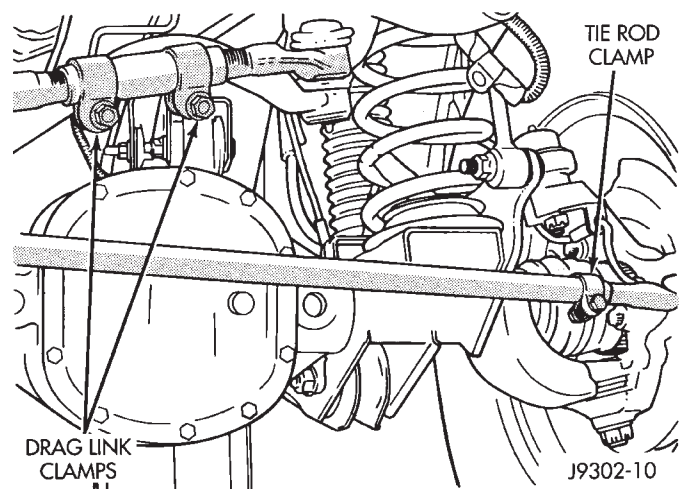

Fig. 3 Drag Link and Tie Rod Clamp
- (1) Apply parking brakes.
- (2) Start the engine and turn wheels both ways before straightening the steering wheel. Center and secure the steering wheel.
- (3) Loosen the adjustment sleeve clamp bolts (Fig. 3).
- (4) Adjust the right wheel toe position with the drag link (Fig. 4) and (Fig. 5). Turn the sleeve until the right wheel is at the preferred positive TOE-IN specification. Position the clamp bolts as shown (Fig. 3) and tighten to 49 N·m (36 ft. lbs.).
(5) Adjust the left wheel toe position with the tie rod. Turn the sleeve until the left wheel is at the preferred positive TOE-IN specification and the TOE DIFFERENTIAL is within .05°. Position the clamp bolts as shown (Fig. 3) and tighten to:
(6) Verify alignment specifications, then turn the engine off.